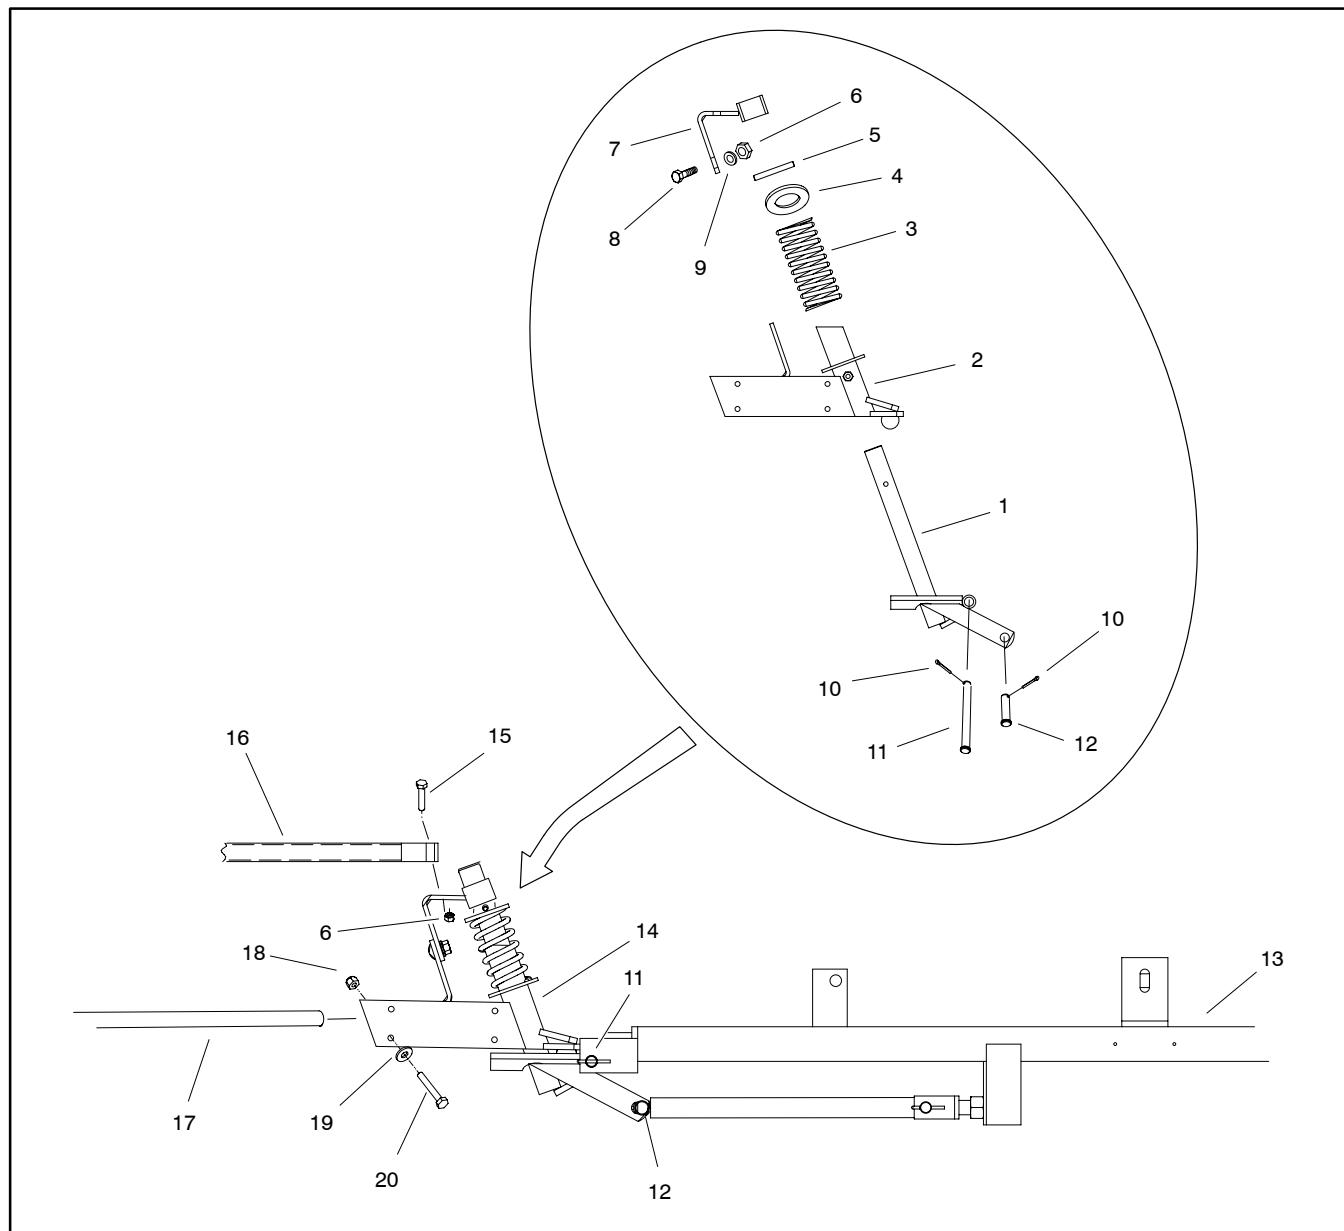

Figure 38
### Disassembly (Fig. 38)
5. Complete disassembly as required using Figures 38 and 39 as guides.
### Assembly (Fig. 38)
1. Assemble breakaway pivot using Figures 38 and 39 as guides.